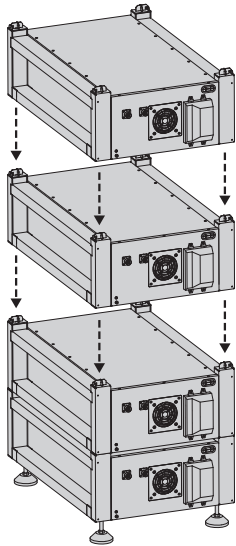
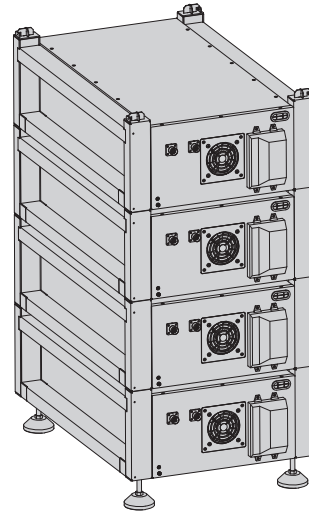

Figure 5
Figure 6
Step 3: As shown in the figure 5 & figure 6, stack them in sequence to four layers.